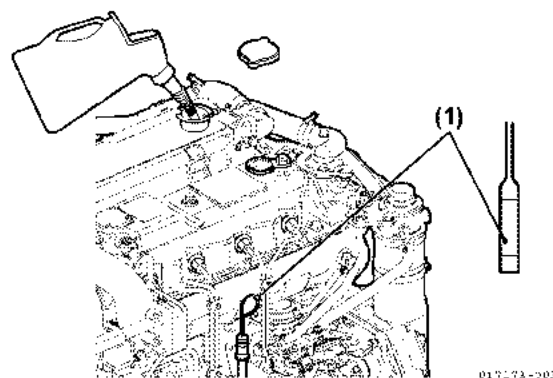

Figure 8-9
19. Approximately 10 minutes after stopping engine, remove oil dipstick and check oil level (**Figure 8-9, (1)**). Add oil if level is too low.